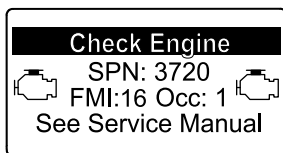

Figure 54
- Engine warning SPN 3720, FMI 16 (Figure 54)